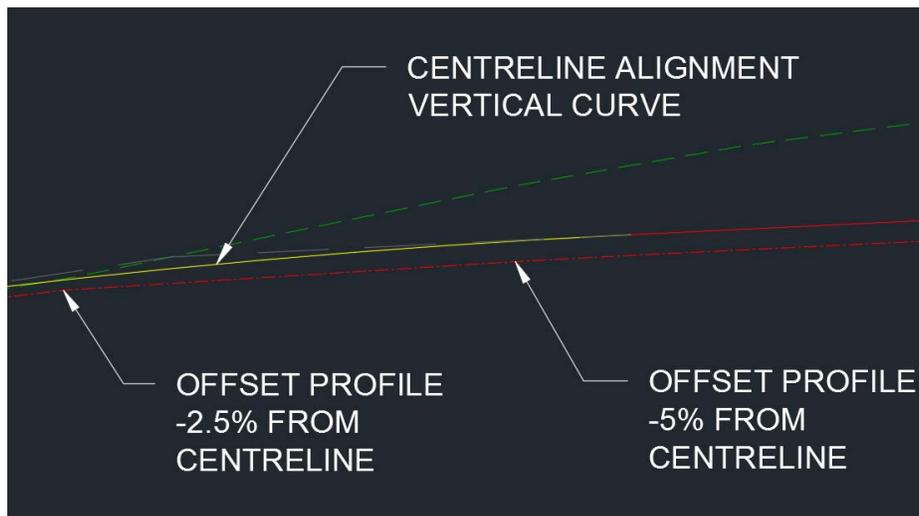

FIGURE 3 - CHANGE IN CROSS SLOPE AT VERTICAL CURVE LOCATION
- If the change in cross slope occurs where a vertical curve occurs then the dynamic offset profile does not respect that vertical curve, replacing it with a straight transition (See Figure 3).